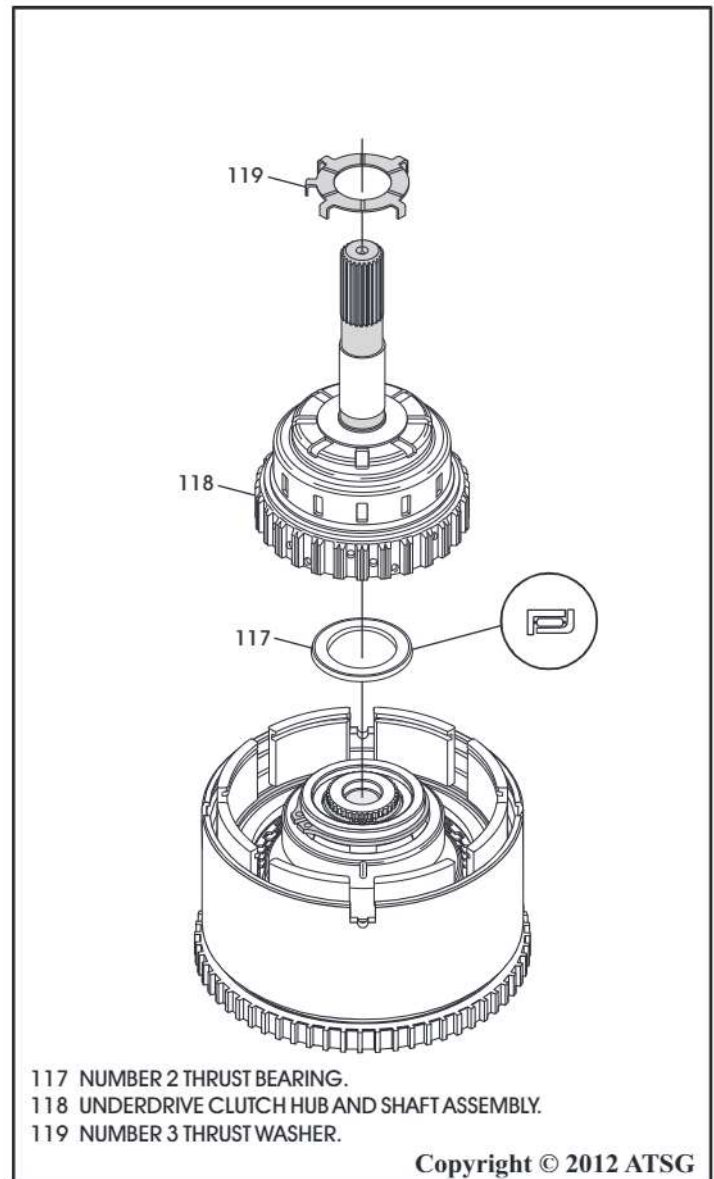

Figure 194
48. To complete the input housing, reverse clutch and overdrive clutch must now be removed to install the 2 clutch hubs and shafts, as shown in Figure 194 and 195.
49. Install number 2 thrust bearing into the clutch hub and shaft, in direction shown in Figure 194.
50. Install the underdrive clutch hub and shaft into input housing, as shown in Figure 194, by rotating until all underdrive clutches are engaged and fully seated on number 2 thrust bearing.
51. Install the number 3 thrust washer onto the underdrive clutch hub and shaft, as shown in Figure 194, and retain with Trans-Jel®.